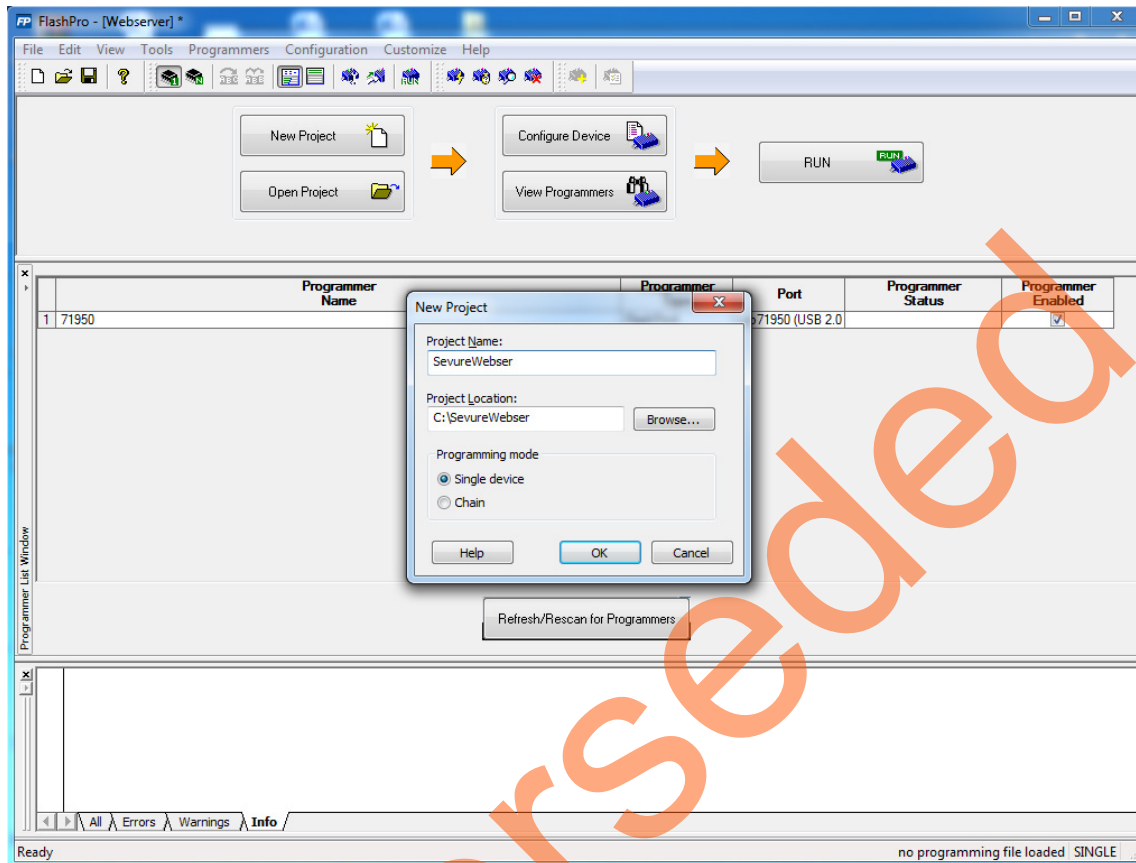

Figure 9 • FlashPro New Project
6. In the **New Project** window, enter the project name as shown in Figure 9.